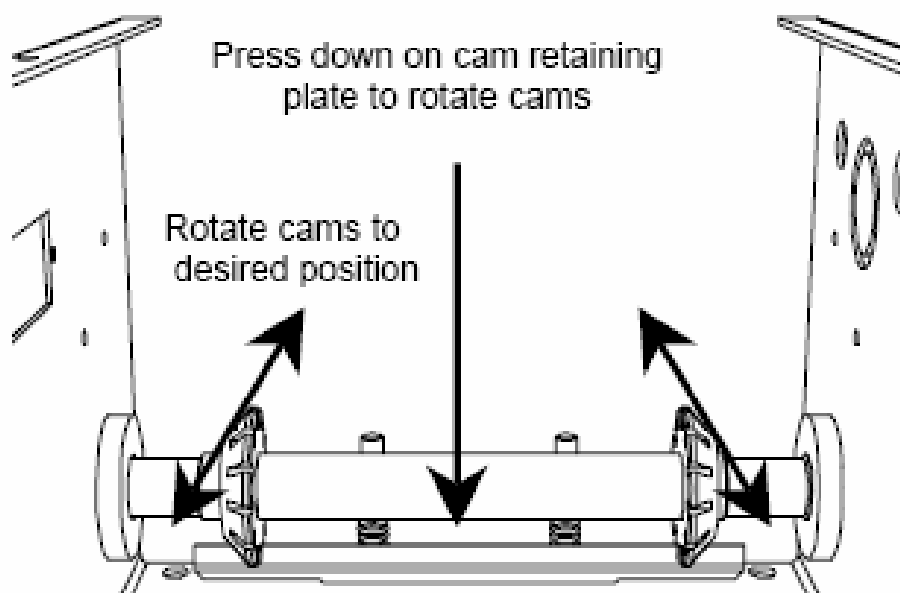

Figure 18
- 3) Depress the travelling cam retaining bracket and rotate the *Open* cam (figure 18).